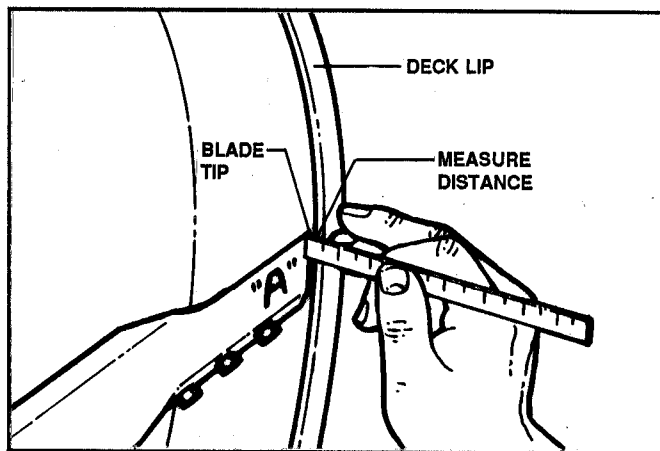

FIGURE 3.5
- C. Turn blade tip "A" to reference mark and measure distance between deck lip and blade. See Figure 3.5.